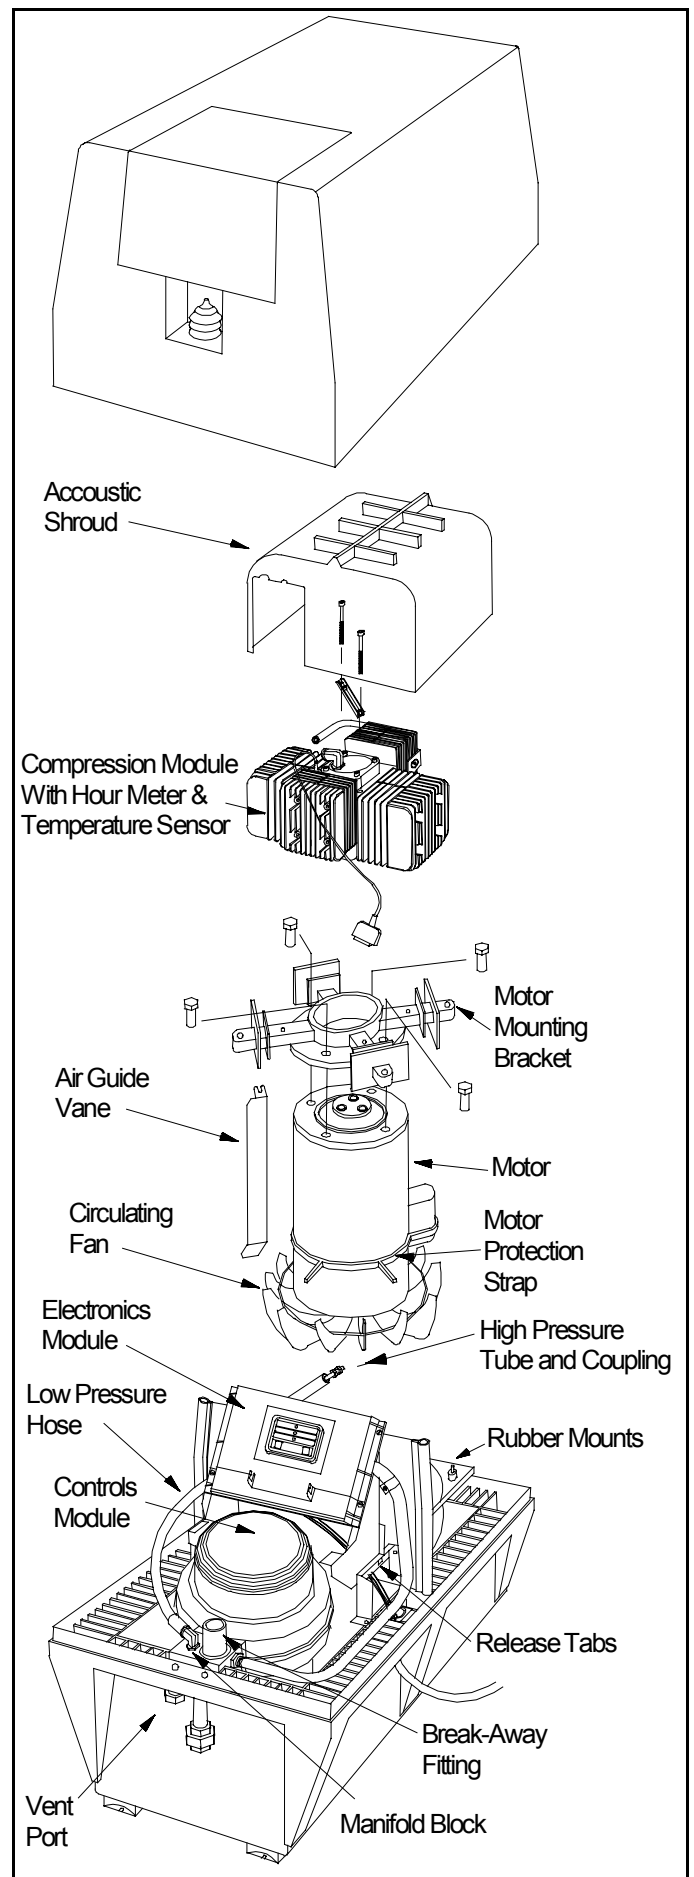

Figure 4 - Removal of Motor, and Fan
- see Figure 4
- if noisy or damaged the fan can be replaced (see Figure 4).